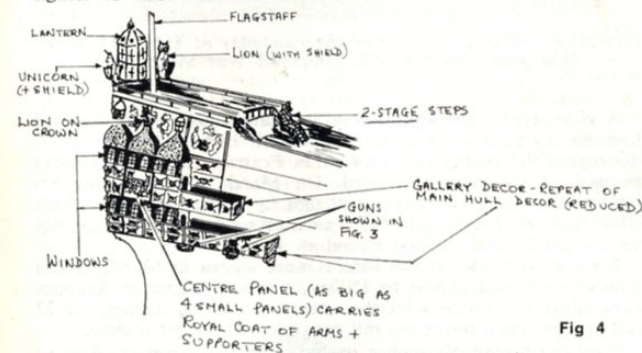

Fig 4
- (5) Some decoration is missing from the sides of the stern galleries, the taffrail, etc—see Fig 4.
- (6) The central 'cupola' should have a lion on top of crown.
- (7) A large centre panel, four times the size of the existing panels, carrying the royal arms plus supporters is missing.
- (8) There should be an heraldic lion and unicorn (the royal supporters), each complete with shield in front, on the corners of the taffrail—see Fig 4.
- (11) The only companionways or ladders visible on the drawing are shown as in two flights, not a single flight as per model—see Fig 4.